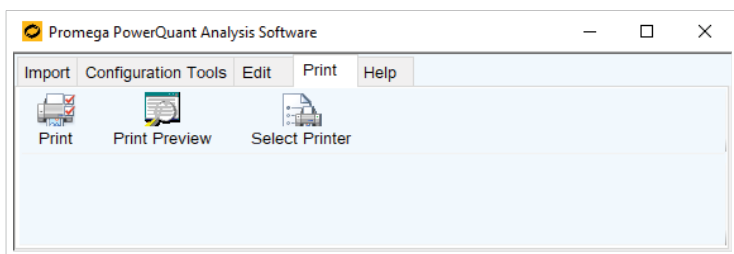

Figure 87. Printing options in the *Print* tab.
- To preview pages for a printed report, select the **Print Preview** icon in the 'Print' tab (Figure 87).